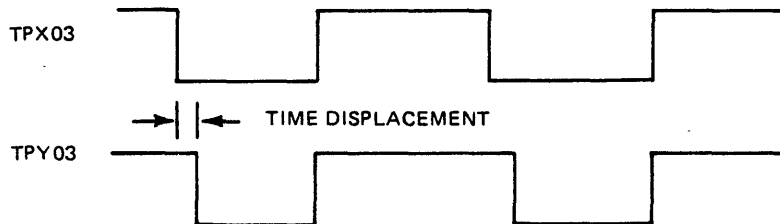

Figure 5-5. Output Waveforms (TP103, TP203, TP603, TP703)
- b. Using the maintenance switch SW1, run the tape forward. Observe the time displacement between the two signals displayed on the oscilloscope (figure 5-5). Calculate the amount of displacement (refer to table 5-4).
- b. Use the maintenance switch SW1 to run the tape forward and monitor TP203 through TP903 with channel B of the oscilloscope. Record the time displacement between channels A and B of the oscilloscope (figure 5-5).
- d. Using the maintenance switch SW1, run the tape forward. Observe the time displacement between the two signals displayed on the oscilloscope (see figure 5-5). Calculate the amount of displacement (refer to table 5-4).